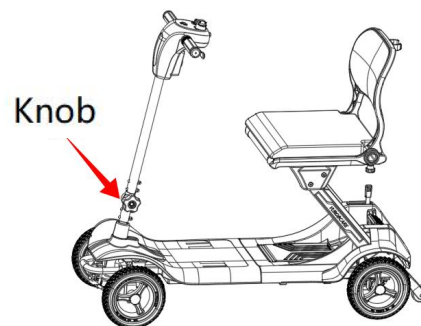

FIG 1
1) Lift the lever to a comfortable Angle and turn the knob at the bottom of the lever to lock (FIG 1);